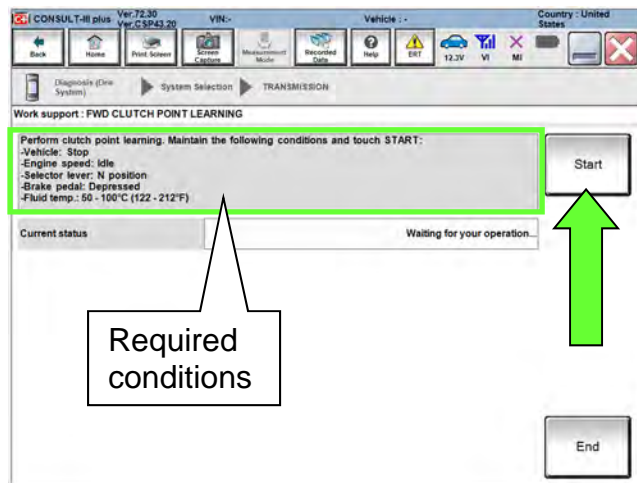

Figure 47
- Confirm that all of the conditions indicated in Figure 47 are being met.
61. While maintaining all conditions shown in Figure 47 and the Current status indicates EXECUTING, shift the CVT into **R** and then wait until the Current status indicates COMPLETED.